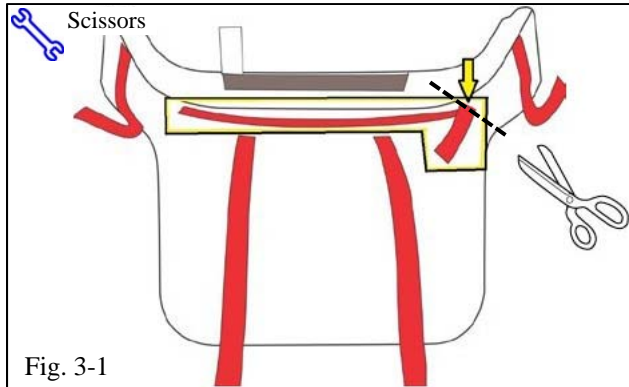
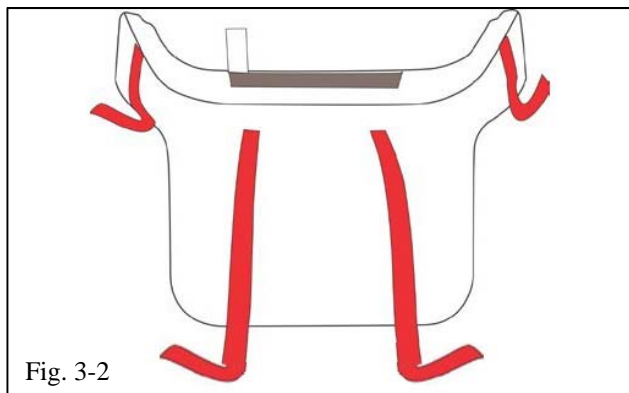
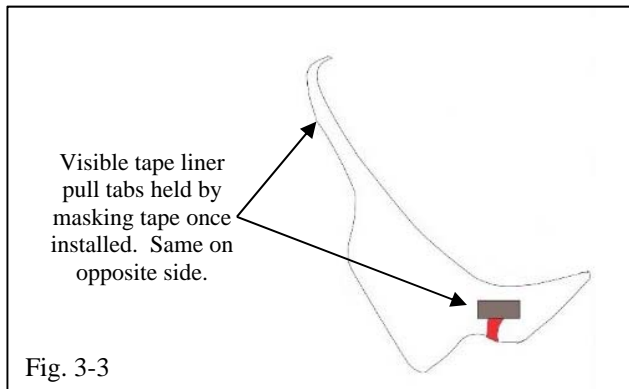
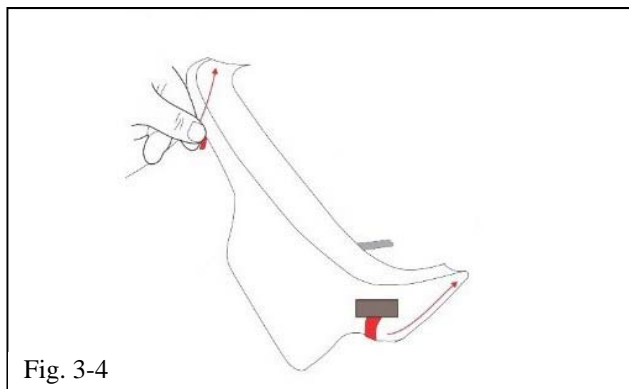

Fig. 3-1
Fig. 3-2
Fig. 3-3
Fig. 3-4
- (a) Determine if the Front Face Cover Applique has the horizontal piece of tape highlighted in Fig. 3-1. If the tape is not applied the part will look like Fig. 3-2.
- (1) Prepare, but do not remove, the tape liner pull-tabs of the part by folding over the outside of the part and creating a crease in the fold.
- (2) Use masking tape to temporarily hold the tape liner pull-tabs to the front side of the part (Fig. 3-3 & Fig. 3-4).
- (e) While pressing down and rearward, carefully remove the two outer tape liners and masking tape, then press the areas lightly to adhere the part (Fig. 3-4).